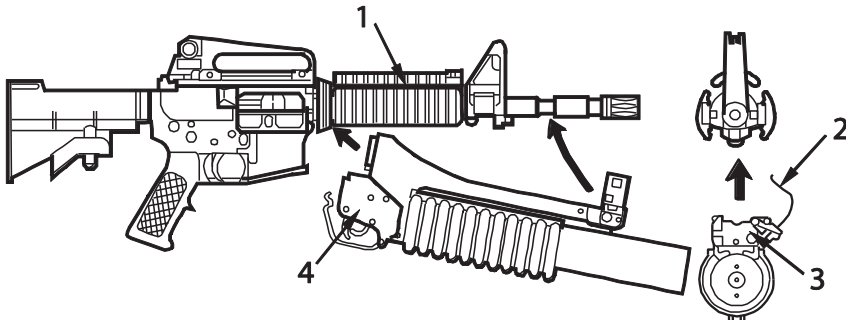

Figure 5. Carbine/QRB Installation.
- CARBINE:** Remove lower rail of adapter rail system from M4/M4A1 (Figure 5, Item 1). Move rear of M203 (Figure 5, Item 4) receiver into position around M4/M4A1 barrel. Fully open latch arm (Figure 5, Item 2) of QRB (Figure 5, Item 3). Rotate muzzle end of M203 towards M4/M4A1 barrel while sliding it firmly to rear.
1. Select a target at 200 meters (660ft) and fire a round. If round does not fall within 5 meters (17ft) of target as seen in Figure 5, zero weapon as follows: